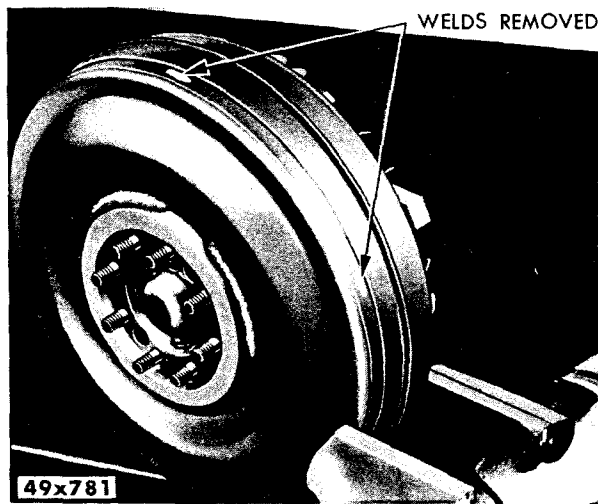

Fig. 14 — Driving Off Ring Gear from Fluid Coupling
- (4) With the front face down, and using a heavy drift and hammer, drive the ring gear off as shown in Figure 14.